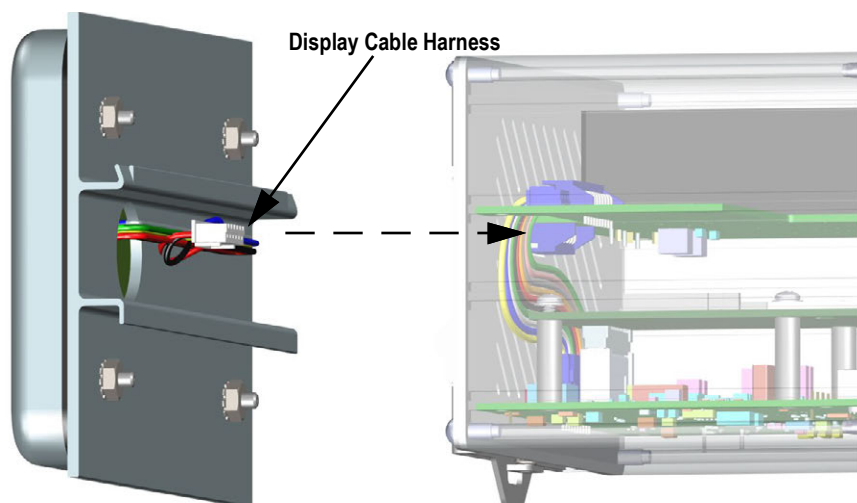

Figure 2-7. Display Cable Harness Wiring
4. Disconnect the display cable harness shown in Figure 2-7.